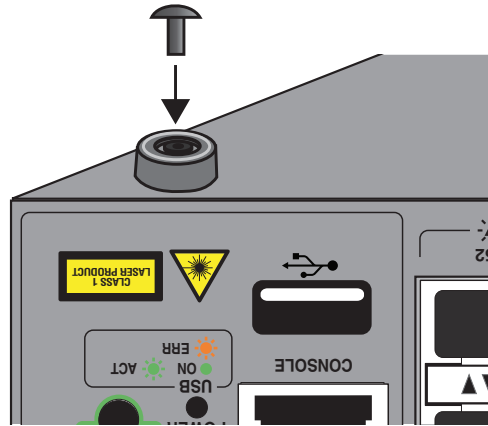

Figure 27. Inserting the Rivet into the Bumper Foot
4. Insert the rivet to secure the bumper foot to the base. Refer to Figure 27 on page 66.